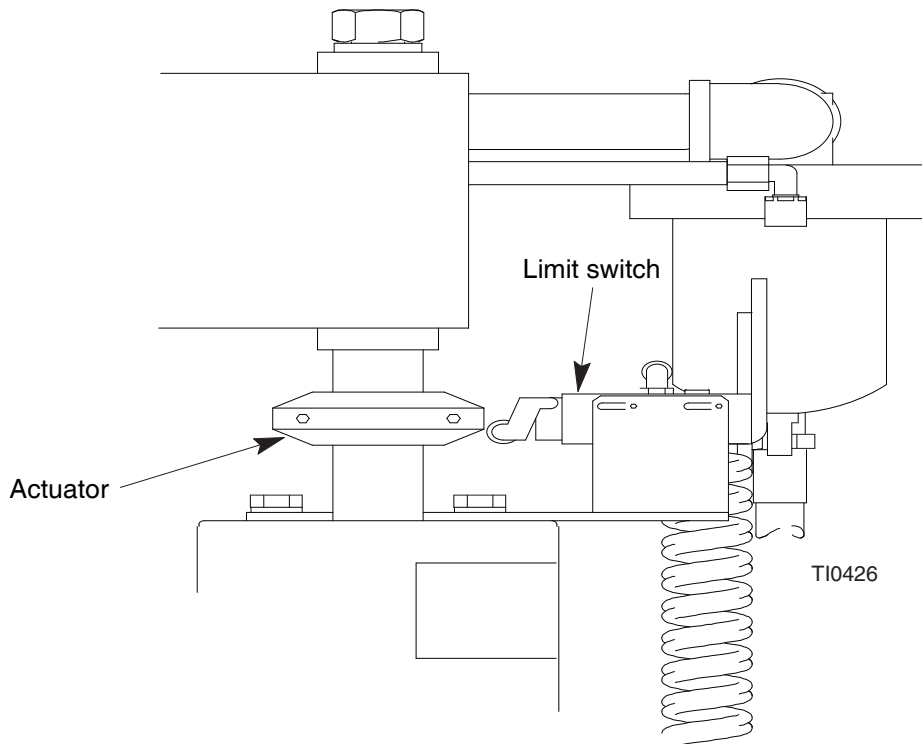

Fig. 7
1. To stop the system, close the main air shut off valve (see Fig. 7) to the supply unit.
- a. Open the main air valve to the supply unit (see Fig. 7).